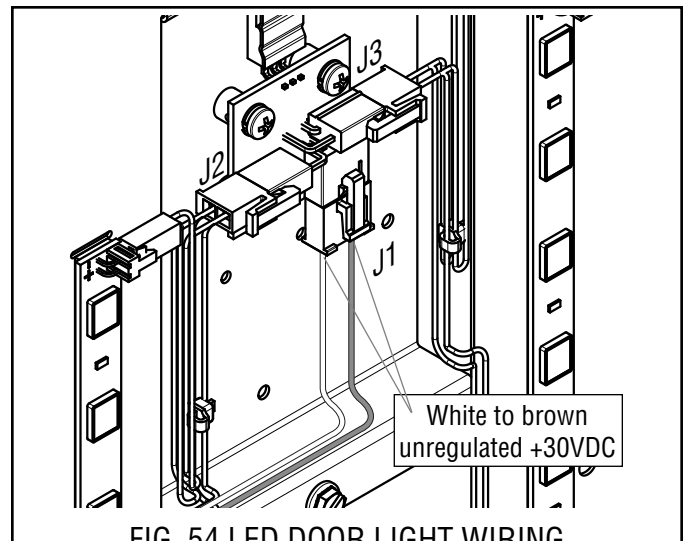

FIG. 54 LED DOOR LIGHT WIRING
4. Check for supply voltage (unregulated +30VDC) across brown wire and white wire at J1 of the regulator board. (FIG 54).
6. Refer to Fig. 54 and reconnect wires to the LED regulator board.